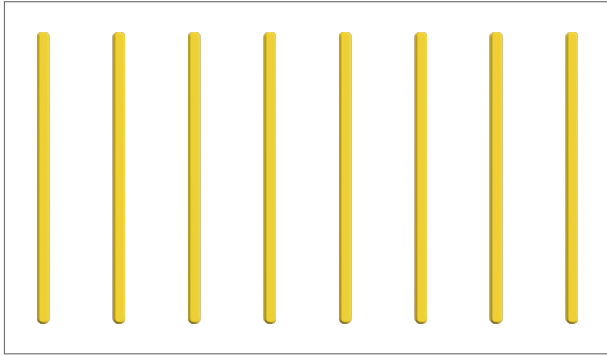
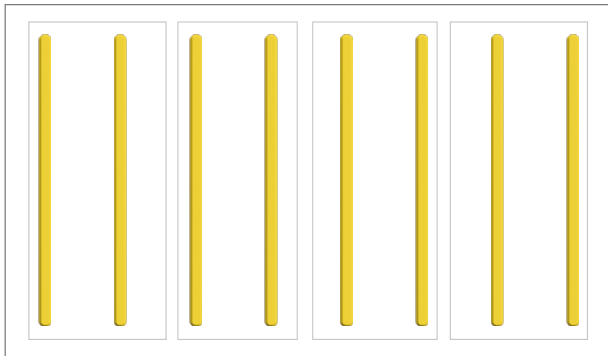

Figure 9a
Figure 9b
3. Apply six (6) more ribbons to each 2' x 4' (0.6 x 1.2 m) insulation board, evenly spaced (nominally 5" to 6" [127-152 mm] apart) between the end ribbons.
5. Where used, Sto ProD insulation boards shall have two adhesive ribbons between each drainage channel (Figure 9b).
NOTE: Sto TurboStick and Sto TurboStick Mini application pattern is the same for both standard (flat) (Figure 9a) Sto insulation board and Sto ProD (Figure 9b) insulation board.